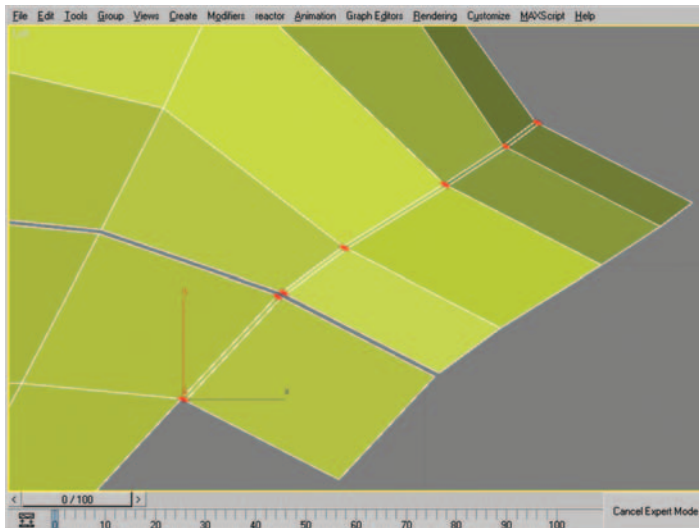
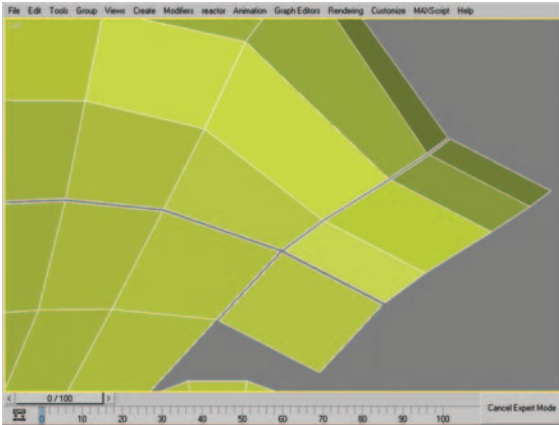

Figure 8.30 Edge selection to be deleted.
Figure 8.31 Mesh after deleting the edges shown in Figure 8.30.
33. Select the edges shown in Figure 8.30 and delete them, creating a new gap between the panels in the process. Figure 8.31 shows the mesh after deleting the edges.